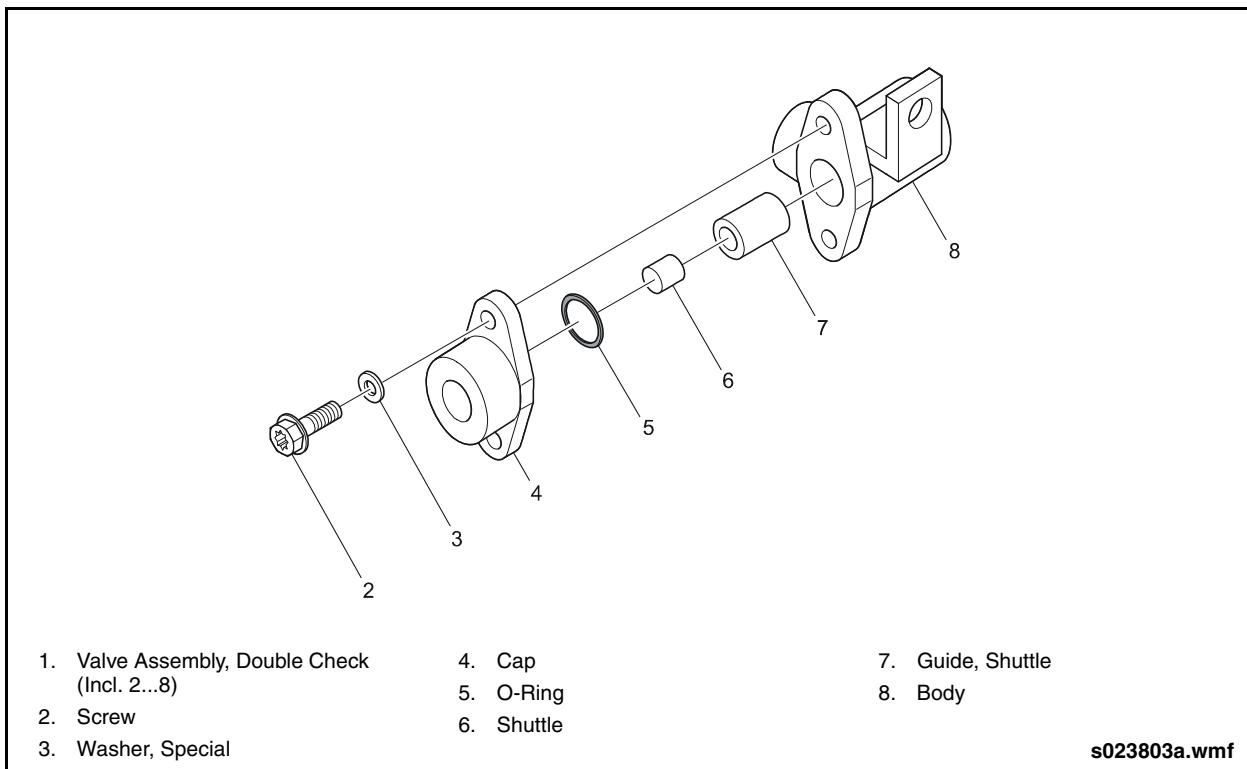

Fig. 8-12: Double Check Valve Assembly
1. Remove end cap from valve. See "Fig. 8-12: Double Check Valve Assembly" on page 53.